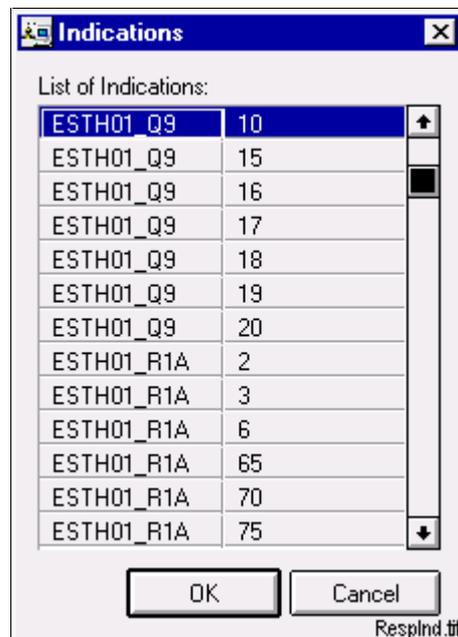

Figure 20. Indications dialog
- 6 Click the button next to the **Indication** field and the Indications dialog is opened, see Figure 20.